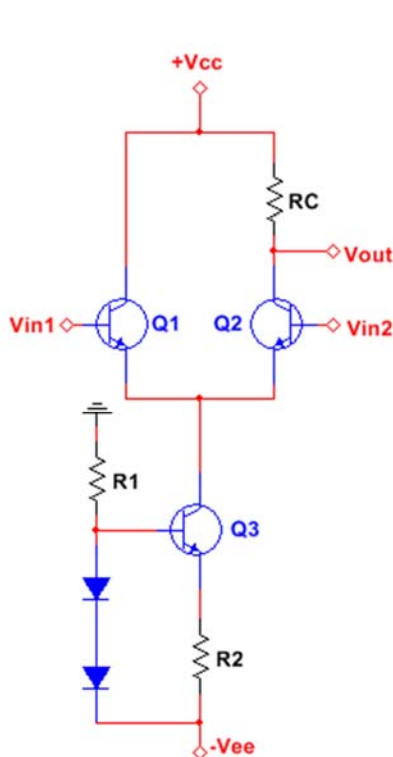

Fig. 5: Problem 7
- 7) Design a differential amplifier (Fig. 5) with $A_d \geq 120$ and $Z_{IN} \geq 50 \text{ k}\Omega$. The power supplies are $V_{CC} = V_{EE} = 15 \text{ V}$. Assume “typical” 2N3904 parameters for all transistors and “typical” 1N4148 parameters for both diodes.